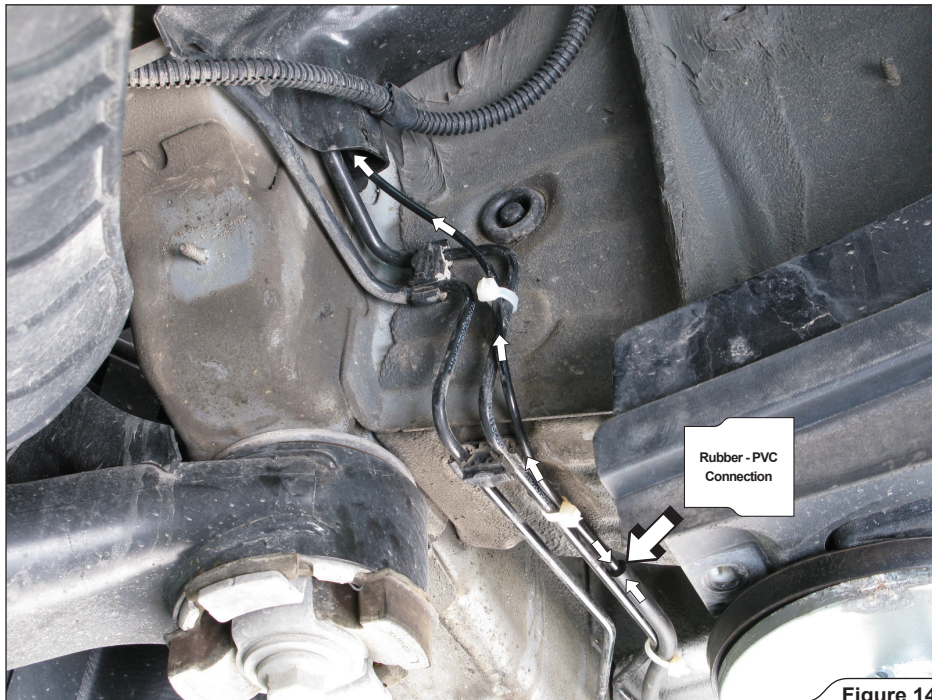

Figure 14
11. Connect the Akrapovič 165cm PVC vacuum hose to the Akrapovič rubber vacuum hose and penetrate the other end through the rubber seal into the trunk. Direct and secure the PVC vacuum hose, as shown (Figure 14, 15).